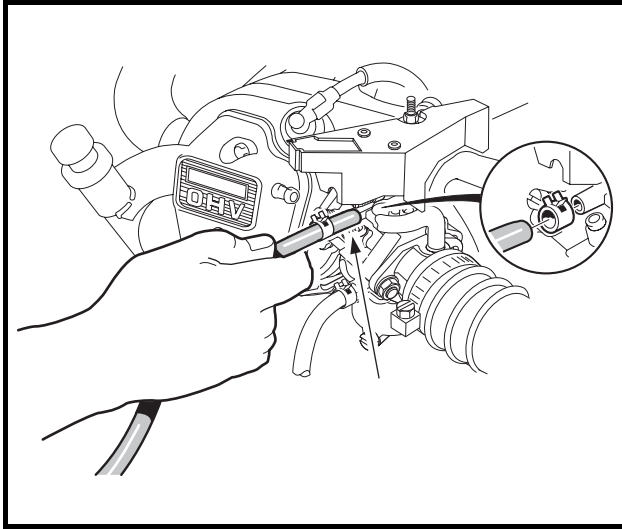

Figure 19-9 Fuel Vent Tube
- Disconnect the carburetor vent tube from the carburetor (**Figure 19-9, Page 19-7**).